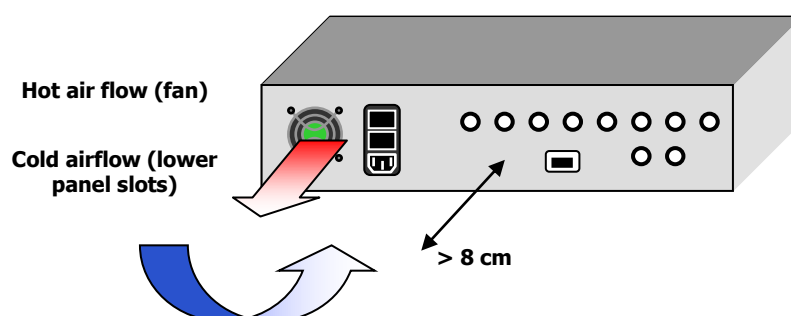

FIG. 4 Airflow and minimum required space behind the device
- Do not obstruct the grid on the rear panel (see FIG. 4).